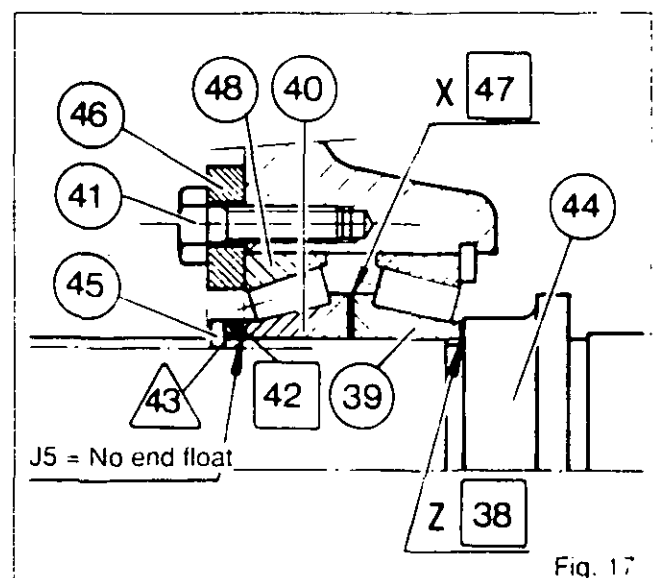

Fig. 17
59. Make setting J5 (Fig. 17) to give :